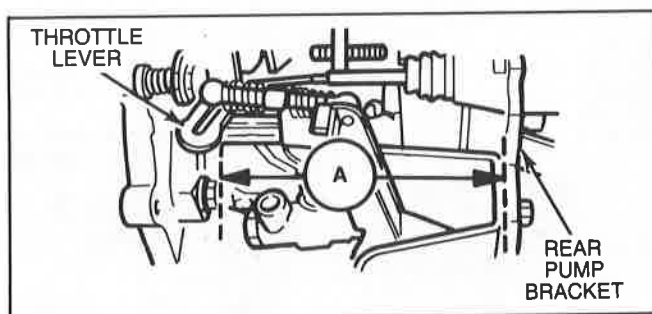

Figure 16 Dimension A
2. Measure and record distance between pump lever and pump rear bracket (Fig. 16, Dimension A).